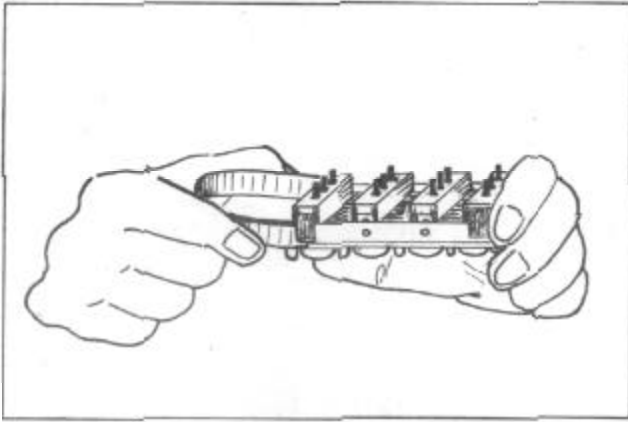

FIGURE 128
2. Depress the unit spring retaining clips with tool KMO-685 while pressing in on the control knob, Figure 128.